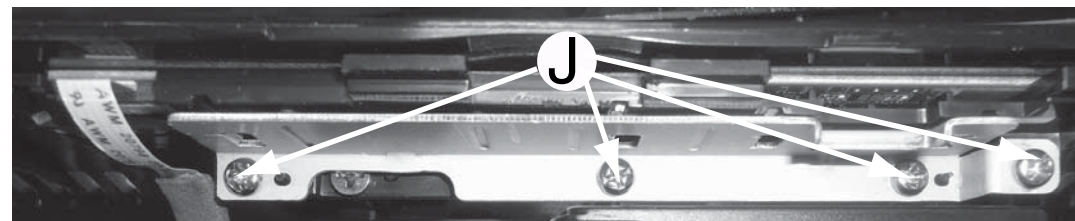

Figure 10
- 1) Loosen 2 screws "J" at the bracket as shown in figure 10.